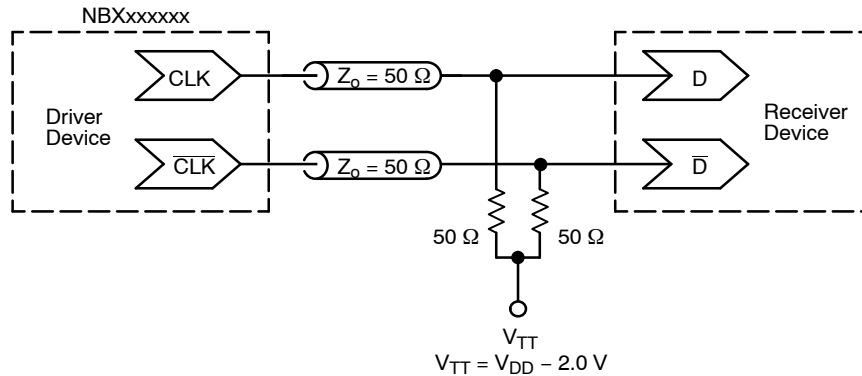

Figure 5. Typical Termination for Output Driver and Device Evaluation
2. Measurement taken with outputs terminated with 50 ohm to $V_{DD}-2\text{ V}$. See Figure 5.
3. Measurement taken with outputs terminated with 50 ohm to $V_{DD}-2\text{ V}$. See Figure 5.